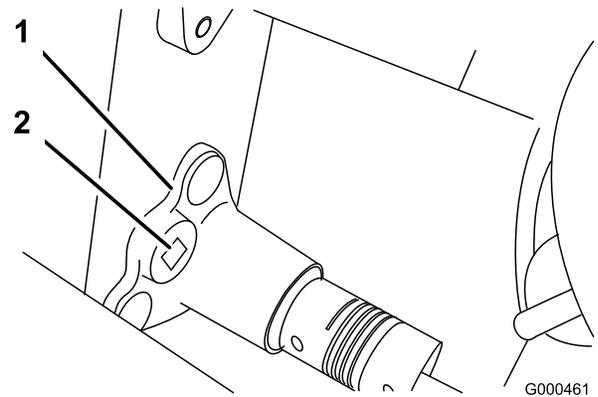

Figure 44
- B. Using a $3/8$ inch drive torque wrench, rotate the bearing housing with 35-40 in.-lb. of torque to set belt tension (Figure 44).